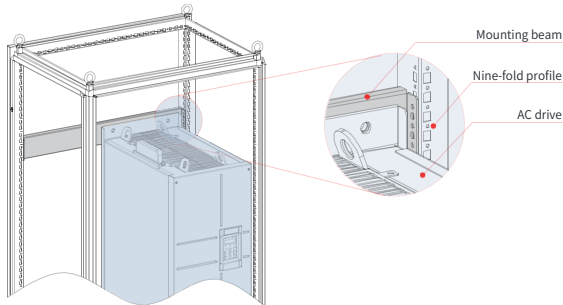

Figure 3-16 3D view of a 200–450 kW cabinet
- 2) When an AC drive of CS710-4T200G(-L) to CS710-4T450G(-L) is mounted in a nine-fold profile cabinet with the height of 600 mm, the mounting beam must be folded inwards, as shown in Figure 3-16. This is not required when the AC drive is mounted in a cabinet with the height of 800 mm or above.